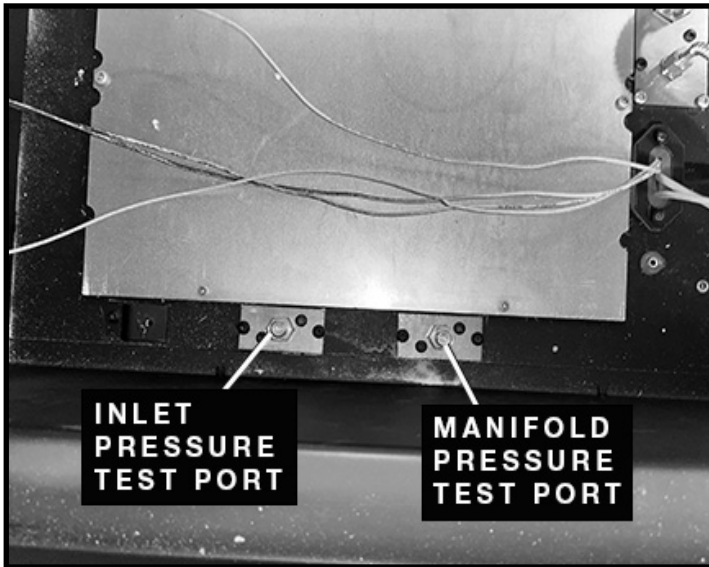

Figure 52: Pressure test ports.
1. Remove the plug from the pressure test port using a 3/16" hex key (Figure 52).